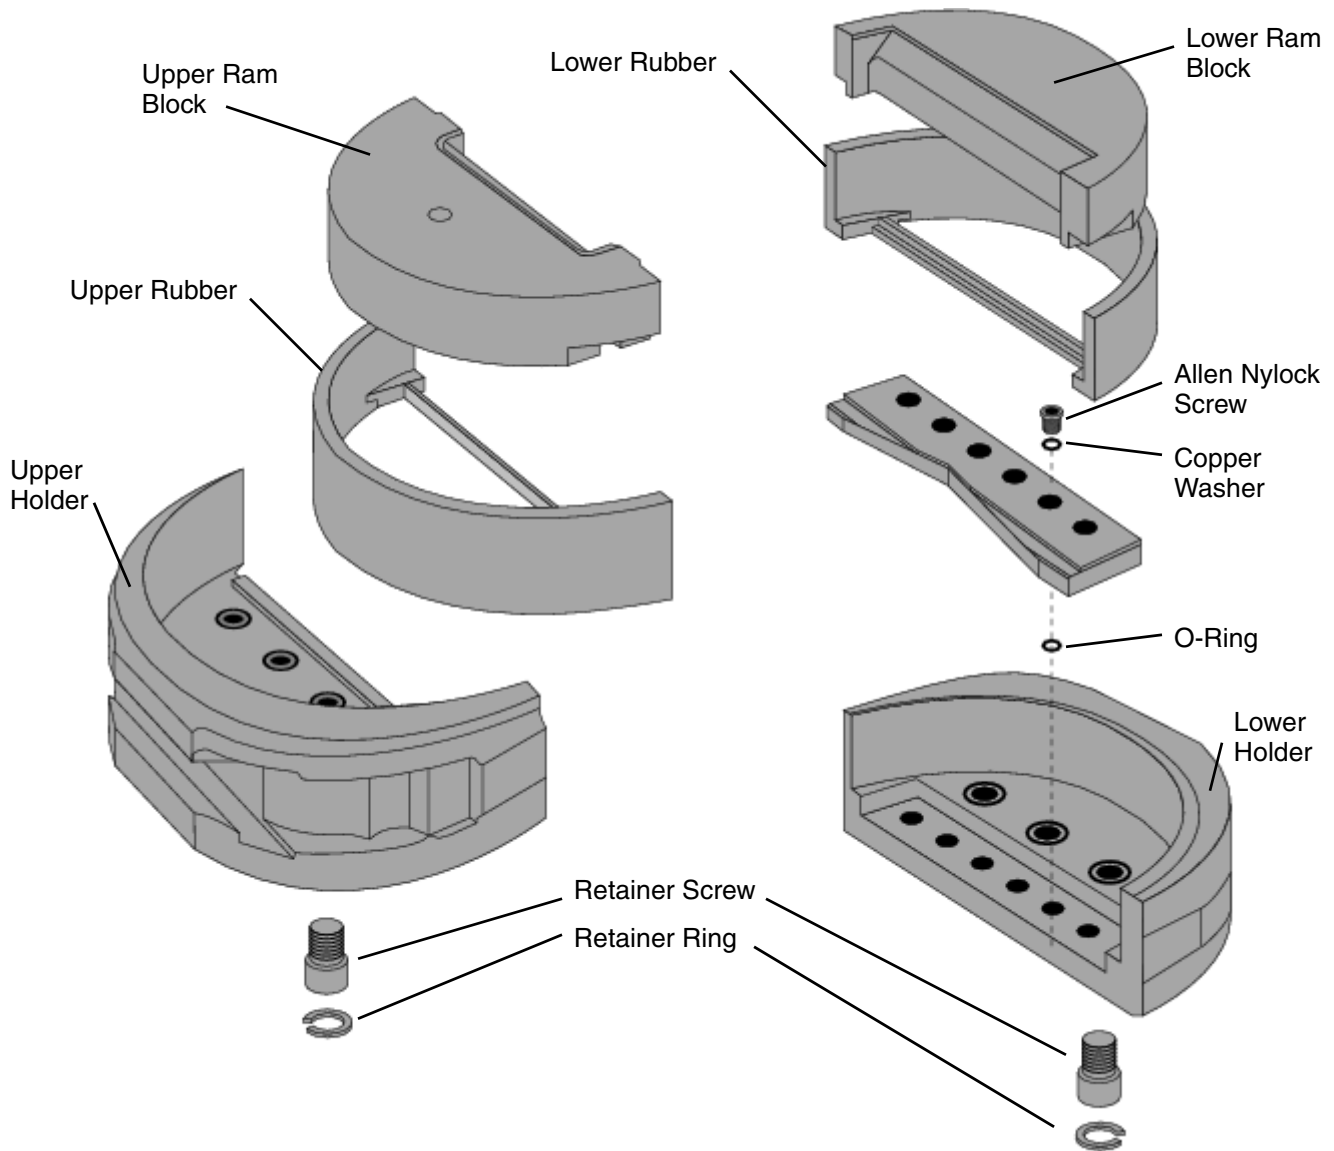

Figure 4-27. Type 72 Shear Ram Assembly
5. Separate the blocks from the holders (see Figure 4-27).
3. Install a new rubber on the block as shown in Figure 4-27 on page 4-29.
5. Install the blocks on the holders (see Figure 4-27 on page 4-29).
6. Install the retainer screws and tighten to the proper torque as given in the table titled "Type 72 Retainer Screw - H2S Service" on page 4-28 and the table titled "Type 72 Retainer Screw - Standard Service" on page 4-28 (see Figure 4-27 on page 4-29).
7. Install the retainer rings (see Figure 4-27 on page 4-29).
3. Separate the blocks from the holders (see Figure 4-27).